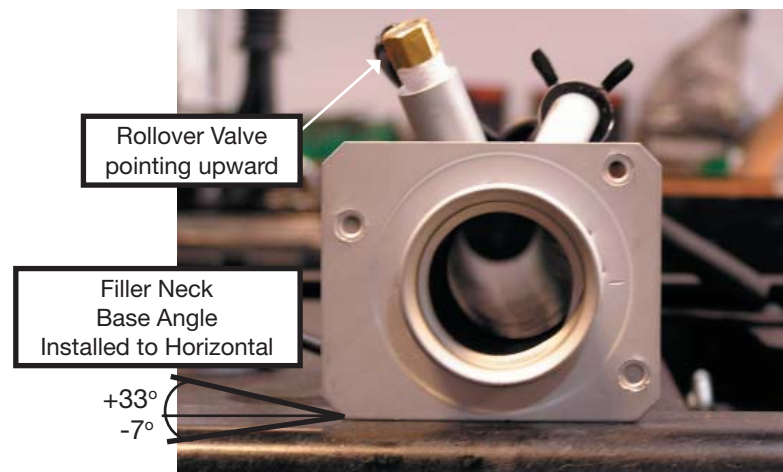

Figure 6
The fuel filler neck (5) must be installed with the proper orientation on the body. The neck should be installed with the roll-over valve pointing upward, with the bottom edge of the neck oriented parallel to the ground, plus or minus 33, minus 7 degrees. See **Figure 6** for the proper orientation.